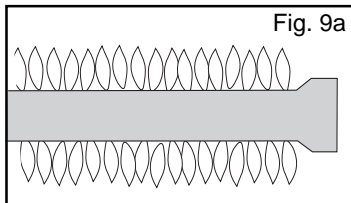

Fig. 9a
- **WARNING:** IF THE SELECTED BURNER DOES NOT LIGHT, immediately turn the burner control knob to the OFF position, to prevent gas buildup. Wait five (5) minutes for the gas to clear and then repeat the preceding starting procedure. If the burner will not light when using the Igniter, follow the match lighting instructions (see Page 8).
6. Confirm that the burner is properly lit and that the flame pattern is as desired, (see Figs. 9a, 9b & 9c, for the proper flame patterns). If the flame pattern is other than normal, consult the Troubleshooting Guide on Page 23 for corrective action.
- **WARNING :** IF THE ROTISSERIE BURNER DOES NOT LIGHT, immediately turn the burner control knob to the OFF position, to prevent gas buildup. Wait five (5) minutes for the gas to clear and then repeat the preceding starting procedure. If the burner will not light when using the Igniter, follow the match lighting instructions below.